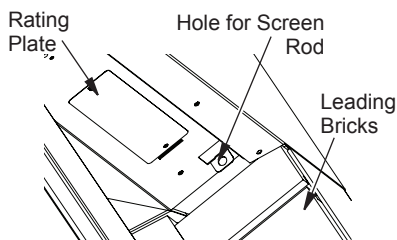

Figure 17 - Installing Fireplace Screen
2. Insert the round end screen rod into hole on the left and right side of smoke shelf (Figure 17).